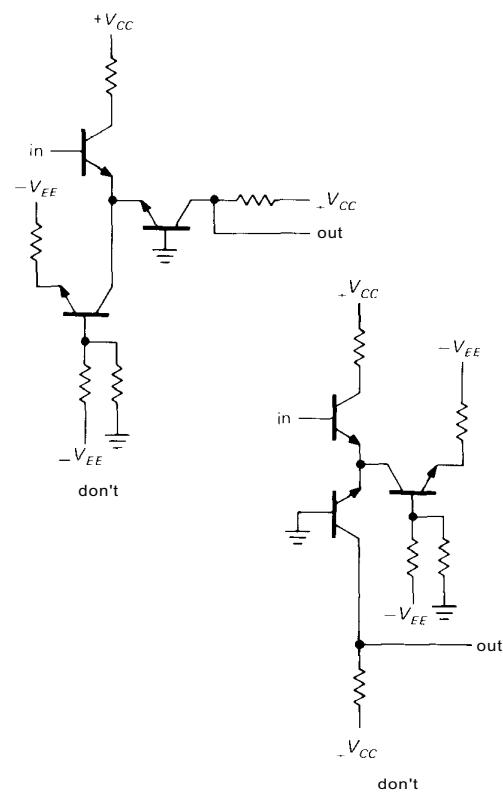

Figure E1
**2.** A good schematic makes circuit functions clear. Therefore, keep functional areas distinct; don't be afraid to leave blank areas on the page, and don't try to fill the page. There are conventional ways to draw functional subunits; for instance, don't draw a differential amplifier as in Figure E1, because the function won't be easily recognized. Likewise, flip-flops are usually drawn with clock and inputs on the left, set and clear on top and bottom, and outputs on the right.